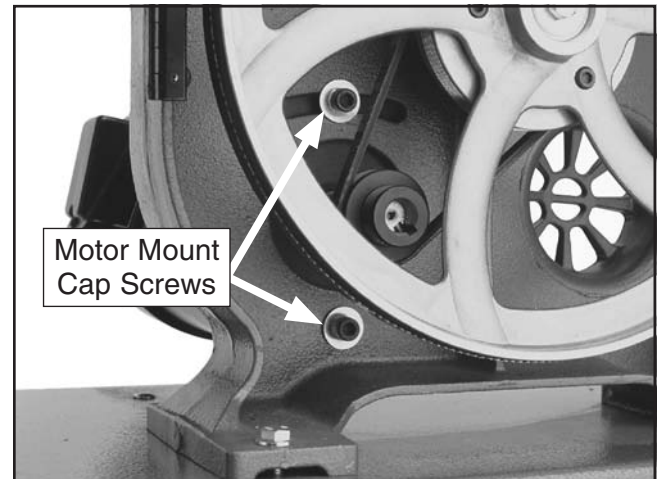

Figure 65. Locations of the motor adjustment and hinge cap screws.
2. Open the lower wheel cover, and loosen the motor adjustment and hinge cap screws shown in **Figure 65**.